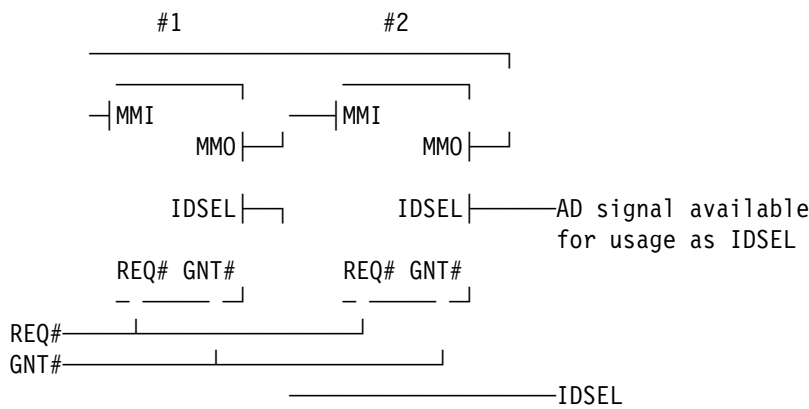

Figure 5. Connecting two VolantPCI chips using Multi-Master
Figure 5 on page 60 shows how two VolantPCI chips would be connected to share a single request/grant signal pair.
In Figure 5 on page 60, all other PCI signals would be connected normally (i.e. both devices AD(1) signals would be connected to PCI bus AD(1)). The REQ# signals would together be connected to the request line. Similarly for the GNT# signal. The IDSEL of the second chip needs to be connected to an AD signal that can be used for IDSEL selection (usually AD31-AD16) that is not used for the IDSEL for any other device (including the first chip).